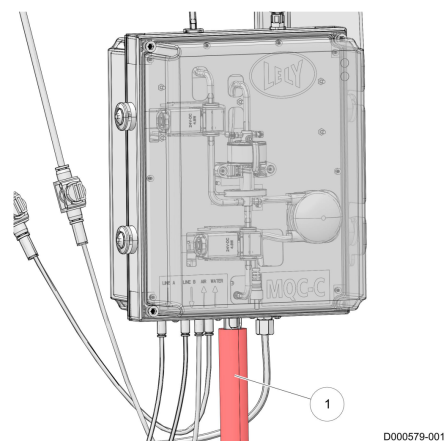

Figure 27. Remove the waste tube
2. Remove the waste tube from the MQC-C (see figure 27 on page 5-13).